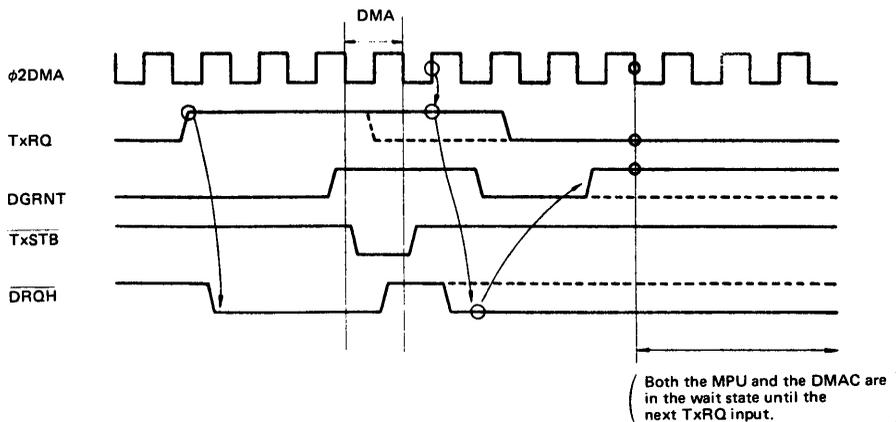

Figure 15 Extraordinary TxRQ Input (2)
- (2) In the case where TxRQ is not reset to "Low" though TxSTB has been driven. In this case, unless TxRQ returns to "Low" by the time ϕ_{2DMA} rises after TxSTB has risen to "High", it is considered as a new I/O request, which leads the above-mentioned operation ①,② → . If TxRQ falls to "Low" immediately after that, the same state as (1) happens (Fig. 15).